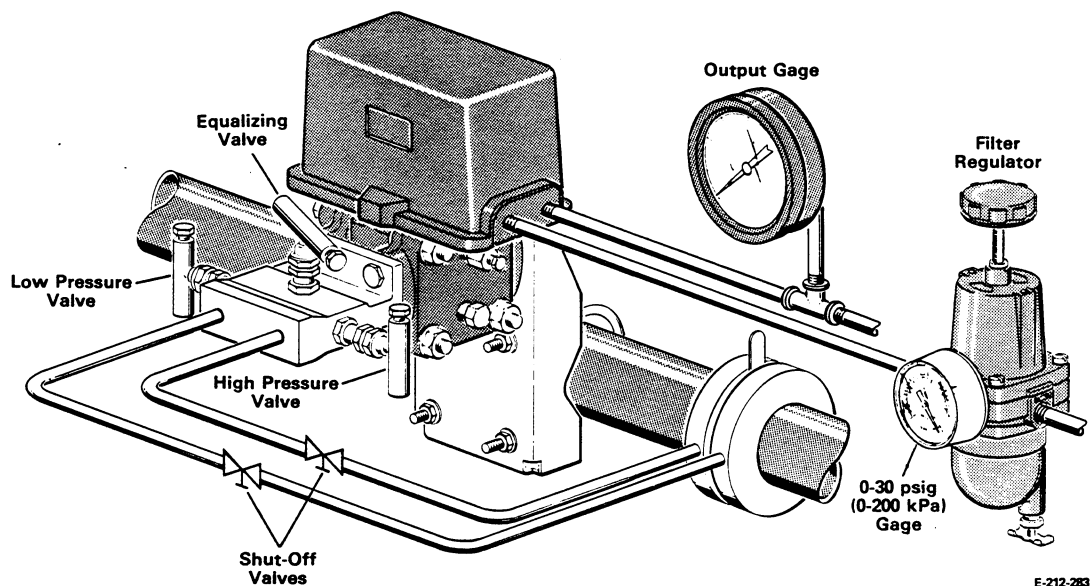

Figure 9. Flow Installation
1. Make sure low pressure and high pressure valves, Figure 9, are closed.
1. With shut-off valves closed, open high pressure, low pressure and equalizing valves, Figure 9.
1. Close low pressure valve, Figure 9.